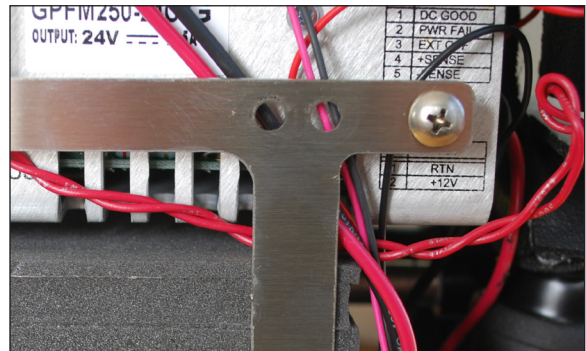

Figure 76 - Step 8 Route wires behind bracket
8. Route the pump and fan wires between the power supply and the thermoelectric subassembly bracket (Figure 76). Make sure the fan wires are tucked into the same location with the pump wiring.